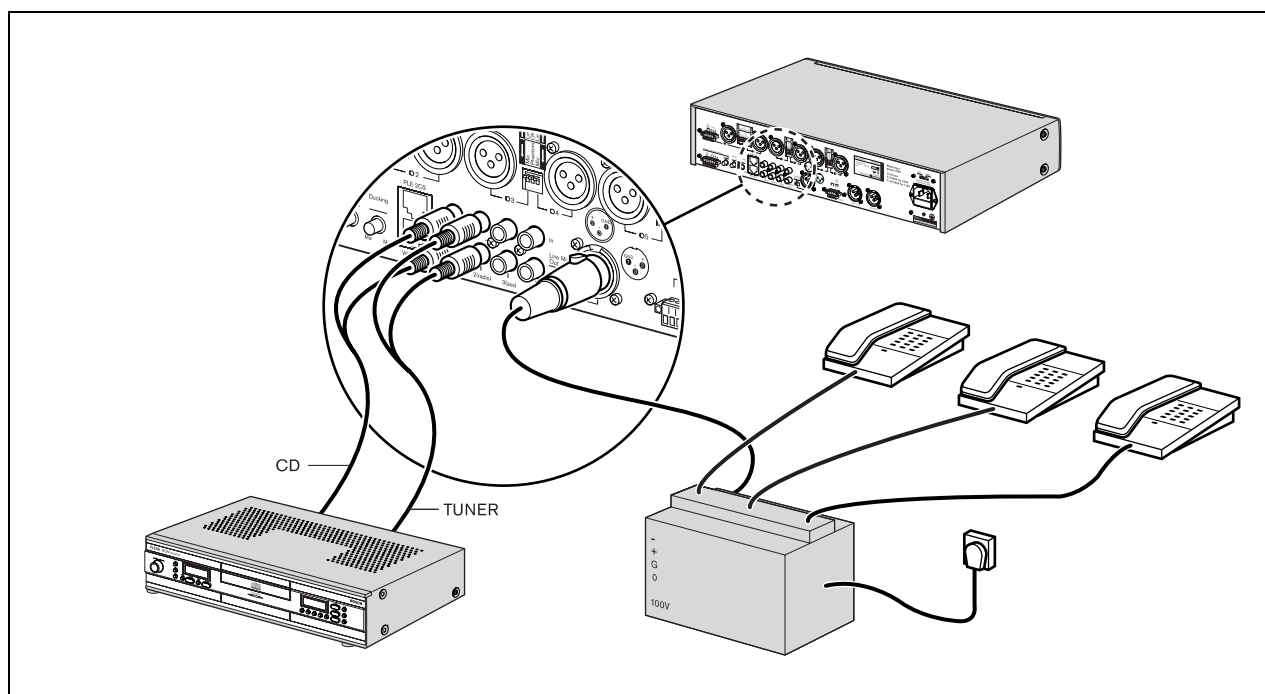

figure 4.9: Connecting music source inputs
Use the music master output connector (23) to provide a dedicated music out source for another device. For example, the music master output can be connected to a telephone coupler, so that callers can listen to music when they are put on hold (see figure 4.9).
Use the Pre-out, amp in insert (21) external sound processing equipment (e.g. an equalizer or Plena feedback suppressor) to be connected between the preamplifier and the power amplifier stages. See figure 4.9.